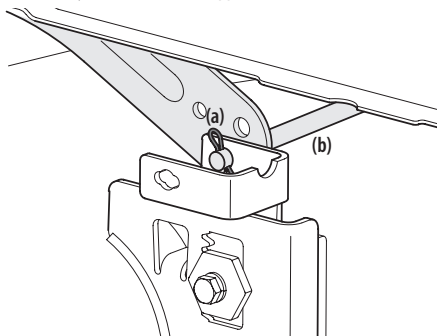

Figure 28
5. Looking at the cutting deck from the left side of the tractor, locate the bow-tie pin (a) that secures the deck support rod (b) on the rear left side of the deck. See Figure 28. Remove the bow-tie pin (a) that secures the deck support rod (b), and carefully remove the deck support from the deck lift arm.